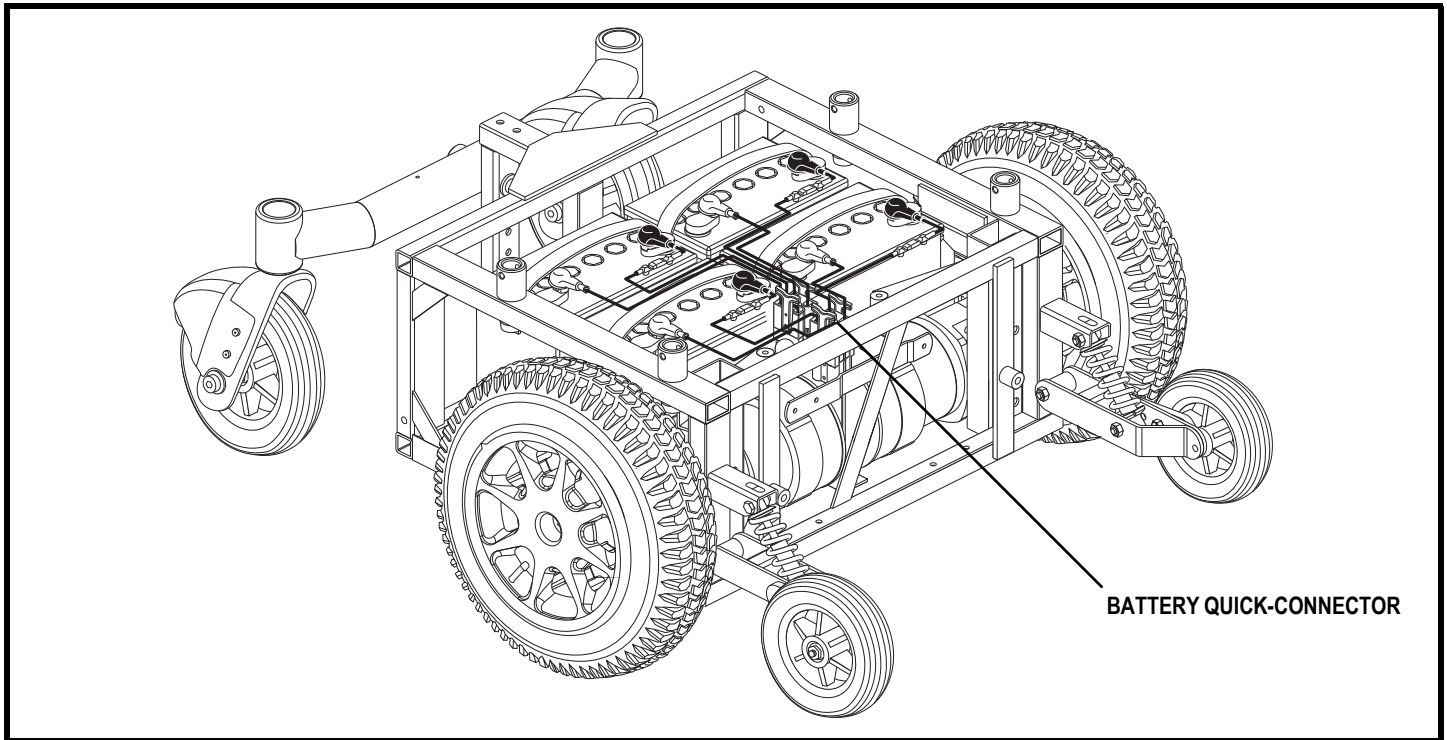

Figure 22. Quantum Jazzy 1650 Battery Connections (4-Battery Configuration)
6. Unplug the battery quick-connector from the power base. See figure 22.